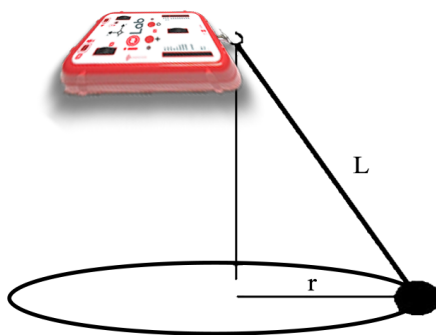

Figure 1: Schematic of the conical pendulum.
6. Consider the system shown in Figure 1. Suppose $m_2 = 200.0\text{g}$, the coefficient of static friction is 0.400, and the coefficient of kinetic friction is 0.300.
The conical pendulum consists of a mass at the end of a string; the upper end of the string is fixed and the mass orbits in uniform circular motion as shown in Figure 1, while the string sweeps out the surface of a cone. By investigating the dynamics of the conical pendulum, we will be able to verify the theory of rotational dynamics presented in class. With the other experimental parameters known, we can use the conical pendulum to measure g , the acceleration due to gravity, providing a quantitative test of the theory of rotational dynamics. The upper end of the string is tied to the force sensor and we can use it to measure both the horizontal component of the force required to keep the mass moving in a circle and the orbital period T , the time it takes to complete its circular orbit.
5. Now, practice holding the iOLab device horizontally as shown in Figure 1 and making the ball orbit in uniform circular motion above the reference circle. You will find that it is surprisingly easy to do so and you will not have to move your hand much (although slight, almost unconscious motions are occurring to supply the small amount of energy lost to air resistance and maintain the orbit.) When you are reasonably good at this, you are ready to acquire the data from the force sensor.